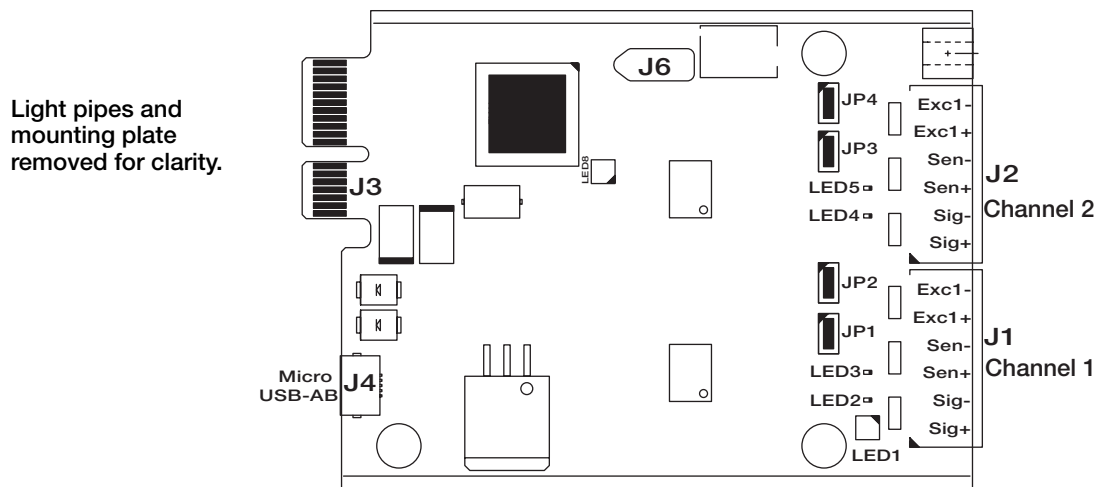

Figure 2-27. Single and Dual A/D Scale Cards
3. Plug the connector into the appropriate channel of the A/D scale card (see Figure 2-27).